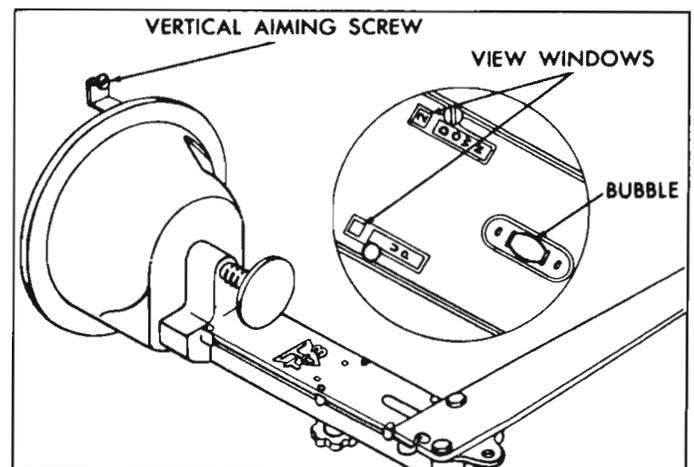

Fig. 8-98—Selecting Level Aiming Area
- Loosen the slider knob beneath the aimer arm and set the numeral "0" in the DOWN view window (fig. 8-98). Back vertical lamp adjuster out on each lamp until bubble is outside of black line of vial then center bubble in between black lines of vial by turning clockwise.